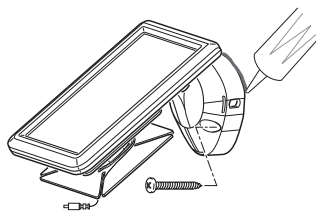

Figure 6
1. Place the solar panel against the mounting surface and mark the mounting holes (see Figure 6).